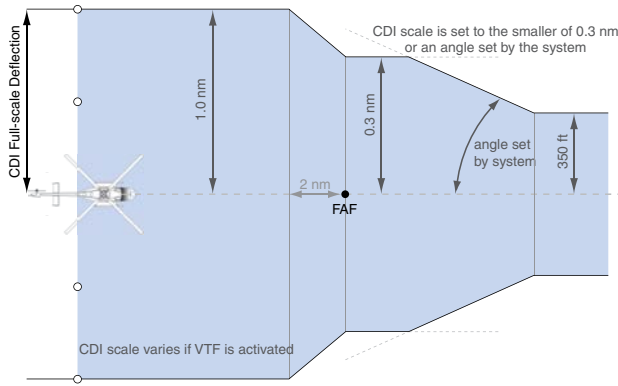

Figure 2-30 Typical LNAV and LNAV+V Approach CDI Scaling
- During **approach**, the CDI scale ramps down even further (see Figures 2-30 and 2-31). This transition normally occurs within 2.0 nm of the final approach fix (FAF). The CDI switches to approach scaling automatically once the approach procedure is activated or if Vector-to-Final (VTF) is selected.